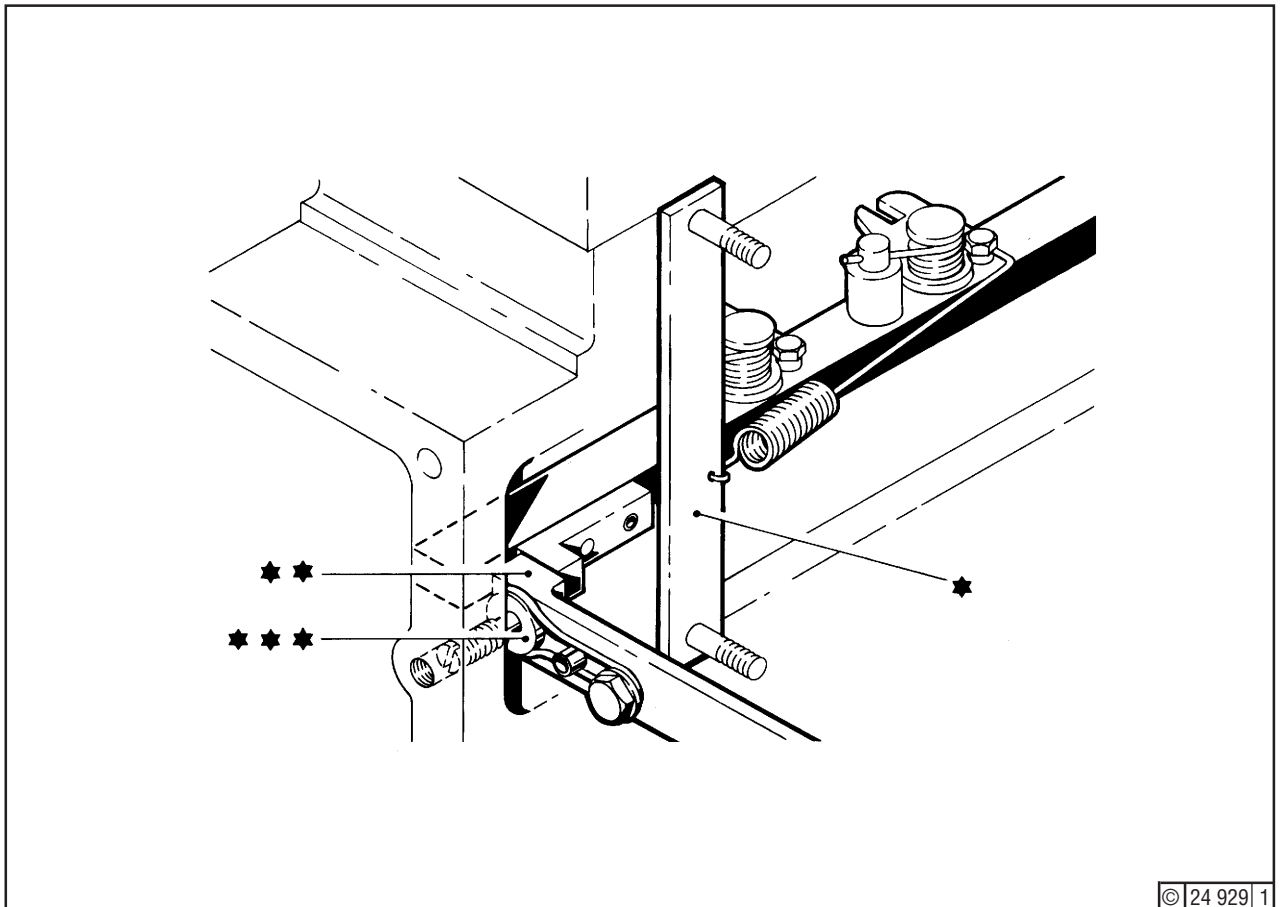
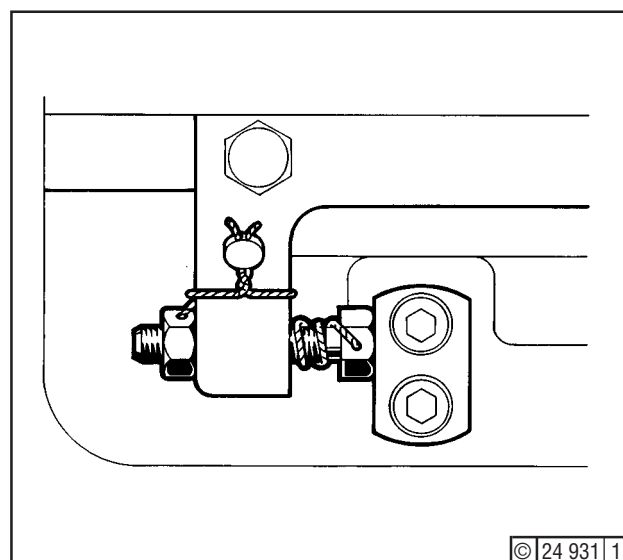

Fig. 7
Fig. 9
5. Use tools (*) - Fig. 7 - to pull control rods of all injection pumps against the gauges (**) contacting check stops (***) at points A18 and A19. Leave tools (*) mounted for the time being.
Then, at the right-hand end of the link (*) (point A24), adjust the length of the link by means of the eccentric (**) so that the control rods contact the check stops without pressure, with the gauges inserted (see Fig. 7). Insert new cheese-head screws according to tightening specification, see "Specification Data", Section 3.5, line 60. If the setting at the right-hand eccentric is insufficient, rectify at the left-hand eccentric.
7. Remove tools (Fig. 7). Move linkage in the direction "Stop" until one or more stop screws abut at points C12 and C13 (Fig. 9).